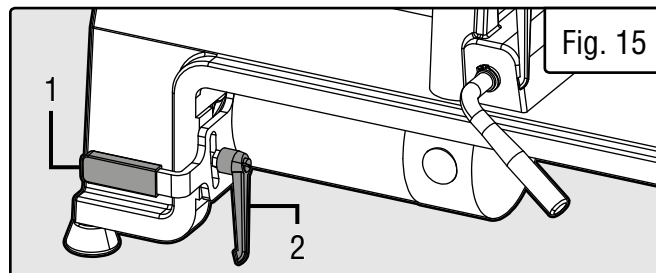

Fig. 15
4. Loosen the motor tensioning locking handle (Fig. 15 - 2).
5. Pull upwards on the tensioning handle (Fig. 15 - 1) to relieve tension on the belt. It may help to wedge a piece of wood or other support under the tensioning handle to keep it in place while you adjust the belt position.